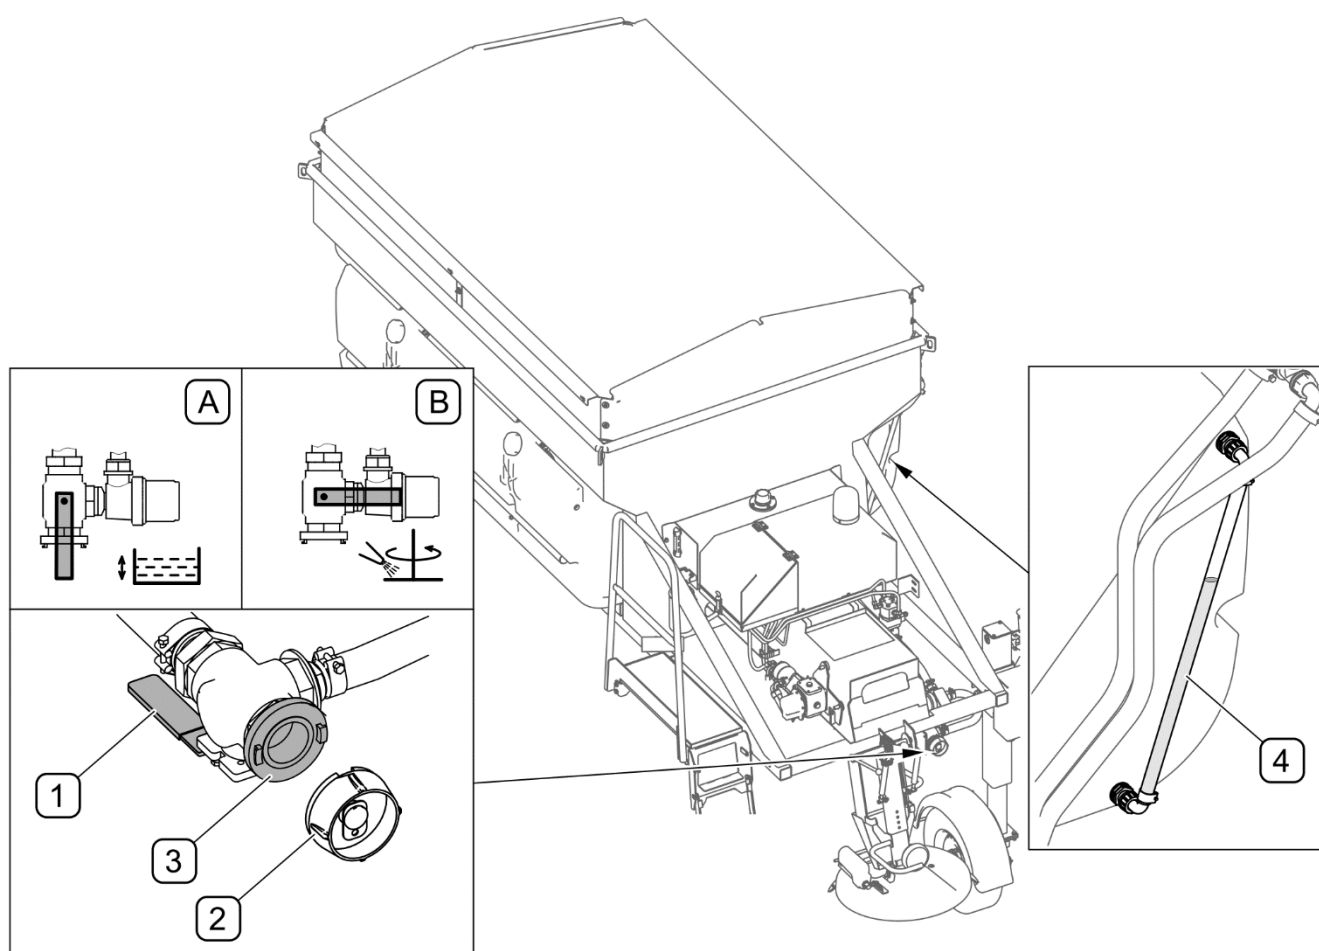

FIG. 4.38 Emptying brine tanks
Before unscrewing plug (2), make sure that valve lever (1) is in position (B) (FIG. 4.38)